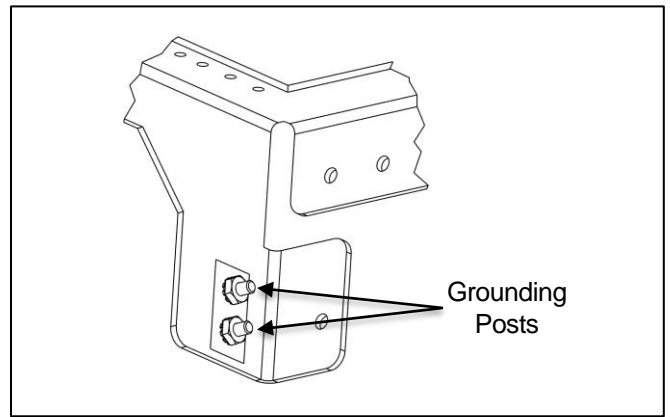

Figure 4. Grounding posts
- ① Locate the pair of threaded posts for grounding on the WMB-5U (Figure 4). The grounding posts are 10-32 x 3/8" on 5/8" centers.
- ② Install a dual ground lug with holes on 5/8" centers (customer provided) to the studs and secure with two #10-32 hex nuts provided.
- ③ Connect a ground wire of appropriate gauge to the ground lug and attach the other end of the wire to a bonded ground point, per local procedures for network equipment.